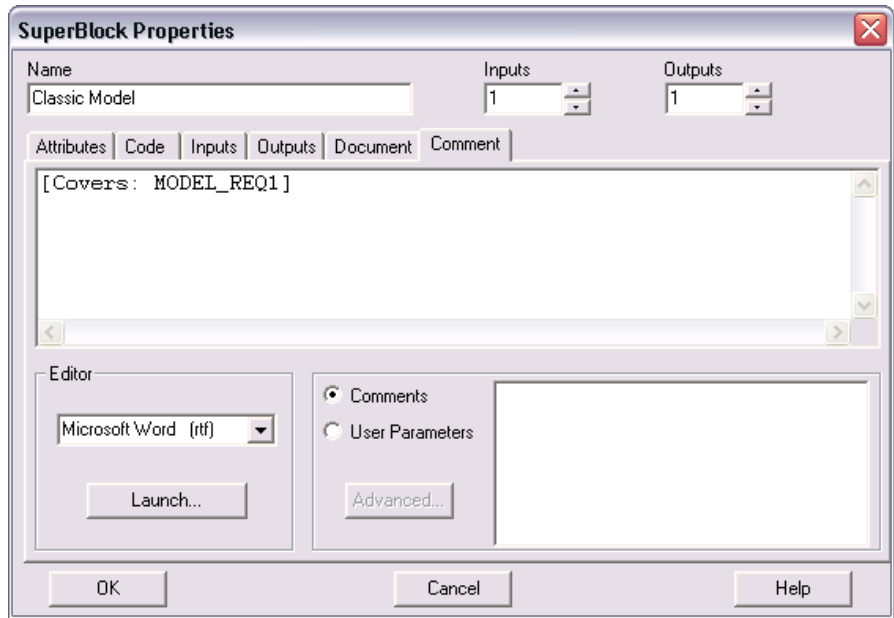

Figure 7-2. SuperBlock Properties Dialog Box
5. Press <Ctrl-V> to paste the text from the clipboard in the control. MATRIXx adds [Covers: MODEL_REQ1] to the comment, as shown in Figure 7-2.